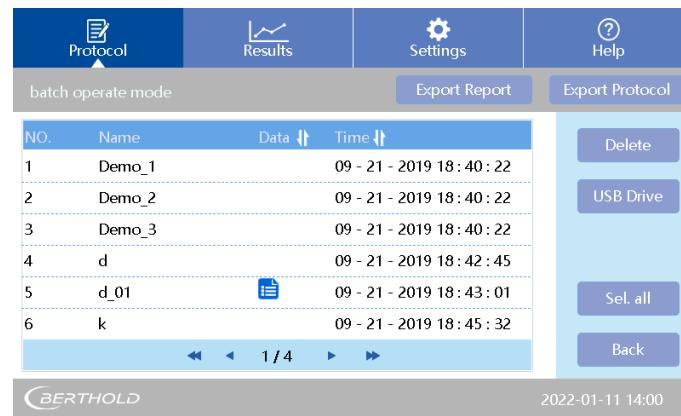

Fig 5: Submenu Batch OP
- Click <Batch OP> (Fig 5) to enter the interface for batch deleting, importing and exporting protocol files.